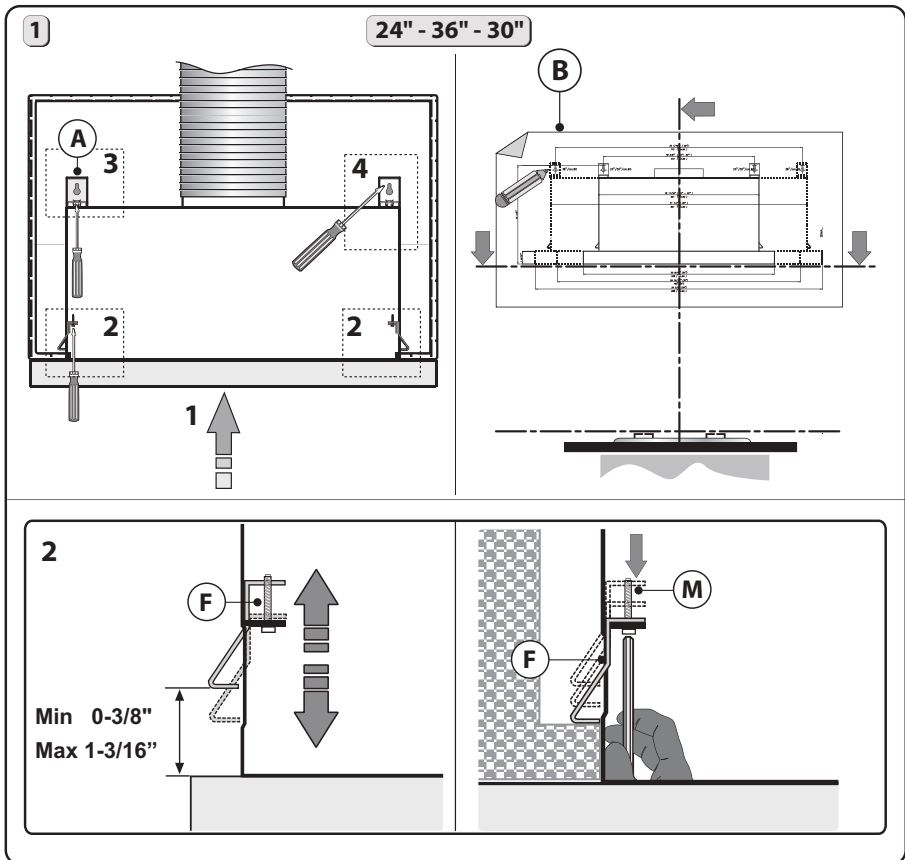

Fig.4
1. Remove pin Y from bracket A. (Pin Y can be discarded.) Then place the insert X on the slot of the bracket A, as indicated in Fig. 4 - step 3. Match the C screws with the L washer and attach the A bracket to the cabinet as indicated in Fig. 4 - step 3.1. Do not completely tighten screws C to allow the bracket to slide back and forth.